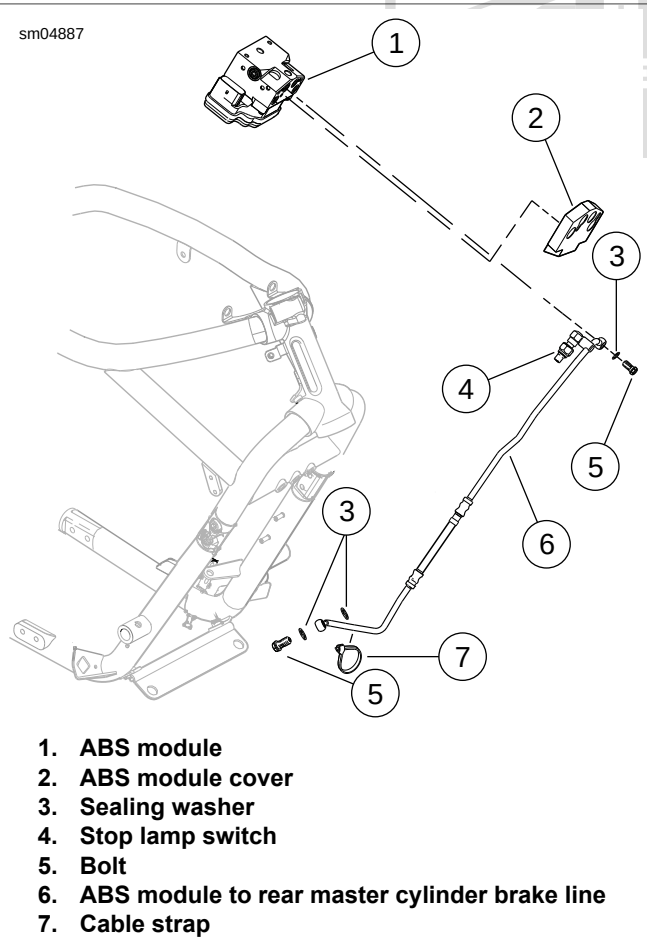

Figure C-14. ABS Module To Rear Master Cylinder
3. See Figure C-14. Remove banjo bolt to remove brake line from MR port of ABS module. Discard washers.
4. Disconnect wiring lead from stop lamp switch (4).
7. Remove any cable straps (7) retaining brake line and remove brake line from motorcycle.
1. See Figure C-14. Install **new** brake line exactly as original brake line was routed.
2. Start banjo bolt (5) with **new** washers (3) to secure brake line to MR port of ABS module.